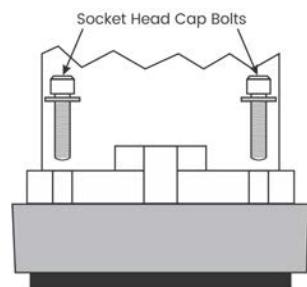

Figure 7
20. Insert the socket head cap bolts through the press foot and thread into the isolator housing as per Figure 7. Once both bolts are fully threaded into the housing and loosely tightened, alternately torque each bolt to 325 foot-pounds.